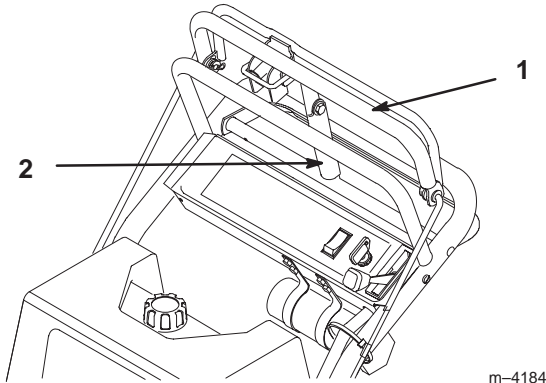

Figure 17
2. Lift the parking brake lock (Fig. 17) up and gradually release the upper control bar. The brake lock should stay in the set (locked) position.
1. Pull rearward on the upper control bar (Fig. 17). Lower the parking brake lock to the released position.